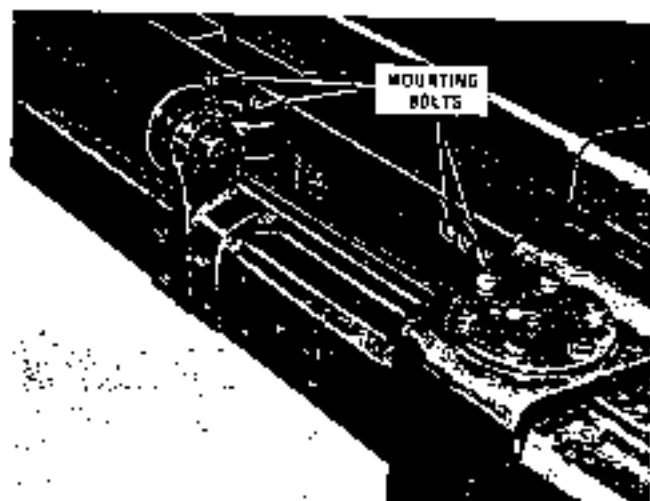

FIGURE L-7 - Beam Installation
10. Bolt hitch beam and slide guide extensions to front of finisher. (Refer to Figure L-7).